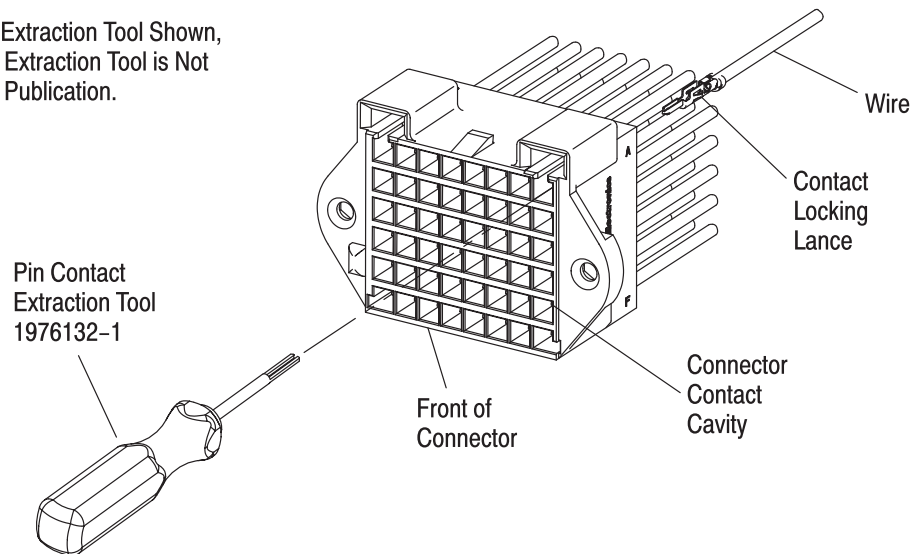

Figure 12
3.12. Repair/Removal (Figure 12)
Use an extraction tool to remove individual contacts from connectors for replacement or for relocation to another housing cavity. Extraction Tool 1976297-1 is used to extract contacts from receptacle connectors. Extraction Tool 1976132-1 is used to extract contacts from plug connectors. See Figure 12. Reset the locking lances to the original spread before reusing contacts. Damaged or worn contacts may be replaced provided there is sufficient slack, after stripping the wire, to insert the new contact into the connector. Refer to the extraction tool instruction sheets provided in Paragraph 2.5 for information on how to remove the contacts from the housings.